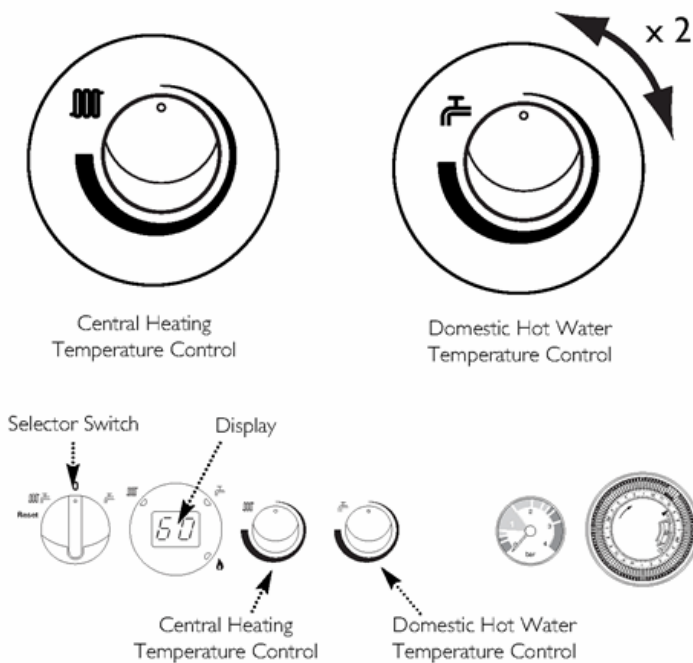

Fig. 62
3. Turn both temperature control knobs fully anticlockwise, then quickly turn the DHW temperature knob 1/4 clockwise twice and back fully anticlockwise (Fig. 62).